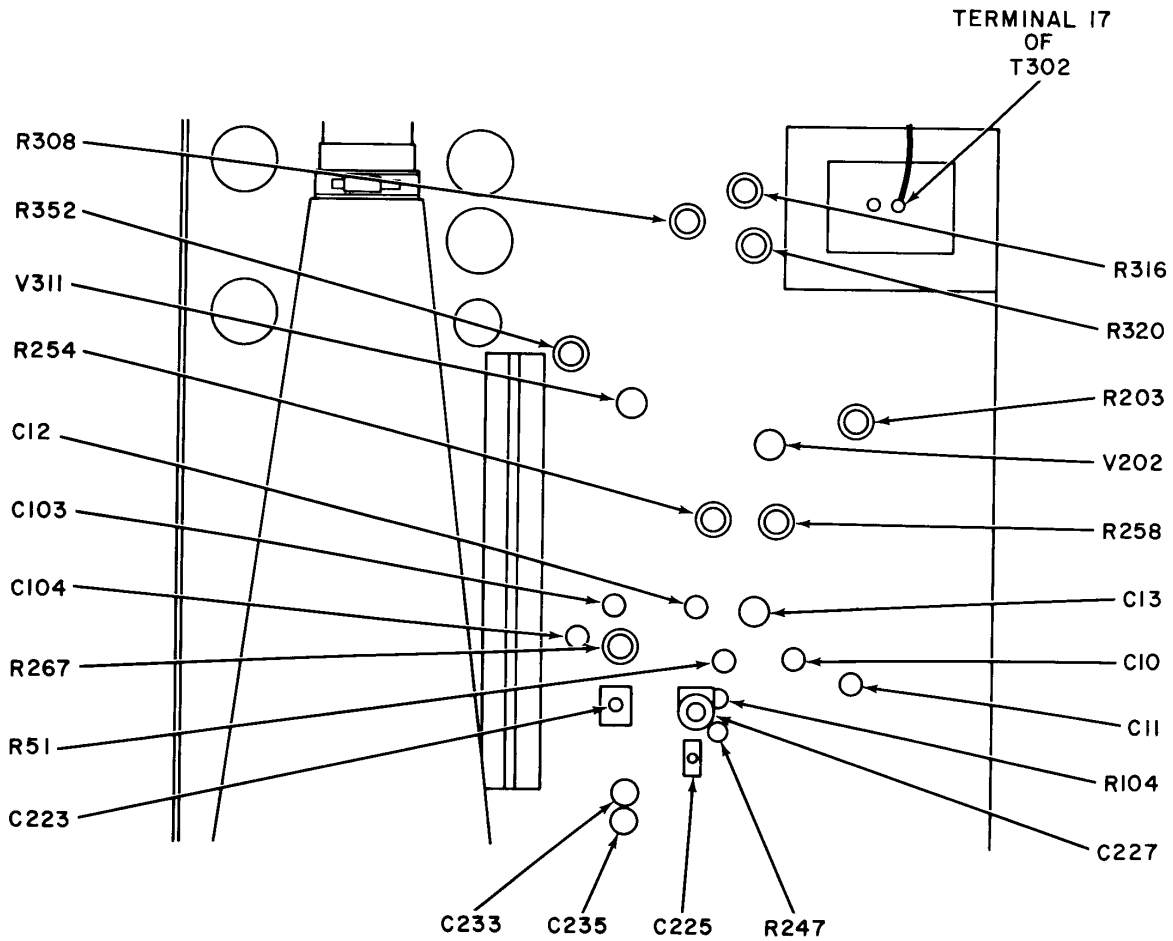

Figure 4. Oscilloscope - top view.
- (1) Position TI controls as listed in (a) through (c) below:
- (2) Adjust R316 (fig. 4) for a small round spot.
- (3) Adjust R320 (fig. 4) until spot disappears.
- (1) Adjust test oscillator amplitude output to 0.53 volt rms.
- (2) Adjust R203 (fig. 4) until triggering becomes stable.
- (3) Position TI controls as listed in (a) through (d) below:
- (4) Connect ac/dc voltmeter (A1) between pin 2 of V202 (fig. 4) and chassis ground.
- (5) Adjust R258 (fig. 4) clockwise until sweep free-runs and then counterclockwise until sweep trace just disappears. Record ac/dc voltmeter indication.
- (6) Adjust R258 (fig. 4) for indication of 3 volts more positive than the value recorded in (5) above.
(1) Adjust voltage calibrator for a 353.5 millivolt rms output.
(2) Adjust CAL control for a 10-centimeter display amplitude on TI crt.
(3) Adjust voltage calibrator output for a 353.5-millivolt rms output.
(4) Adjust R104 (fig. 4) for a 10-centimeter horizontal display amplitude on TI crt.
b. Adjustments. Adjust R51 (fig. 4) for display amplitude of 6 centimeters on TI crt.
- (6) Adjust C12 (R) and C13 (R) (fig. 4) for best square-wave pattern on TI crt.